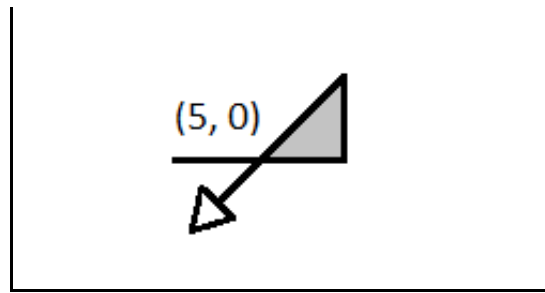

Figure 2:
6. *Move forward 10*. If this instruction were completed, it would move the laser to approximately  $(2.93, -2.07)$ . However, along the way the laser will intersect one of the previous cuts it made, making a hole and interfering with the mobility of the vehicle. (See Figure 2) Thus, this instruction (and all following instructions) cannot be completed.